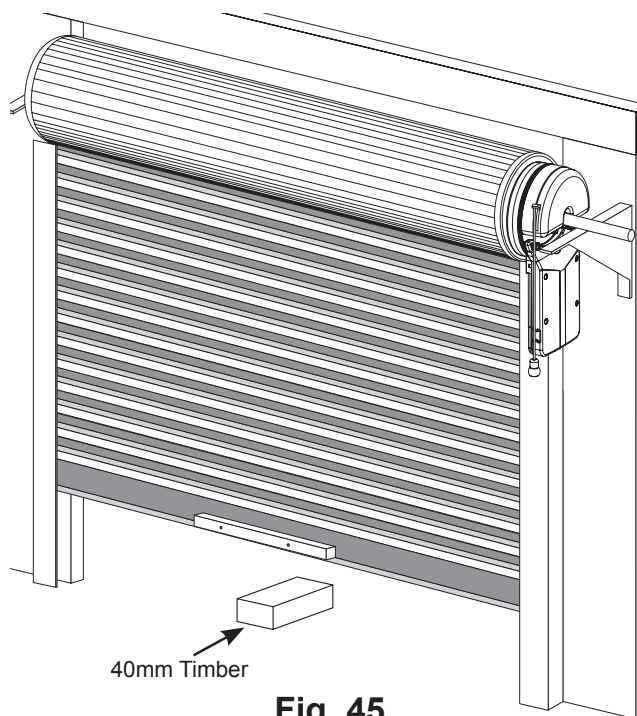

Fig. 45
- 1 Test the obstruction force margin sensitivity by placing a piece of timber approximately 40mm thick on the floor in the doorway (Fig. 45).